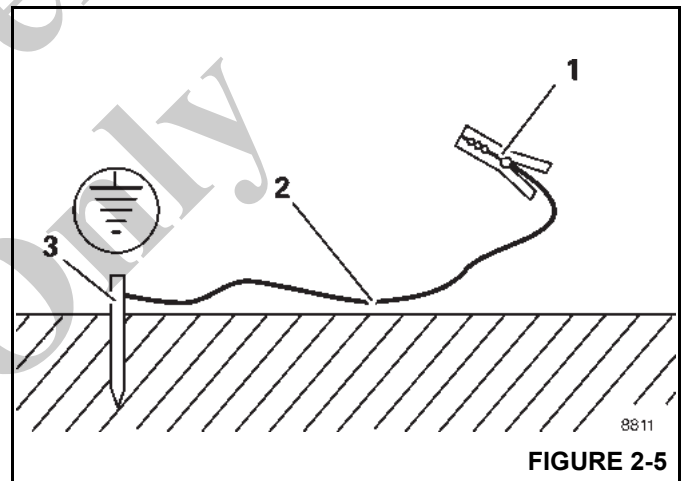

FIGURE 2-5
1. Hammer a metal rod (3, Figure 2-5) (length of approximately 2.0 m (6.6 ft)) at least 1.5 m (5 ft) into the ground.
2. Moisten the soil around the metal rod (3) for better conductivity.
3. Clamp an insulated cable (2) to the metal rod (3), cross-section of at least 16 mm² (0.025 inches²).
4. Connect the free end of the cable with a clamp (1) to a good electrically conductive location on the frame.